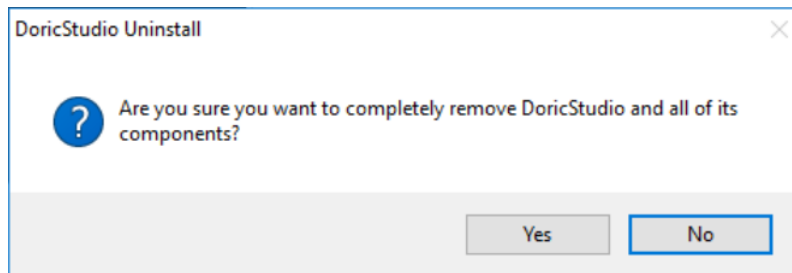

Figure 2.10: Uninstall Confirmation
5. When the program asks if you are certain (Fig. 2.10), **Click Yes.**